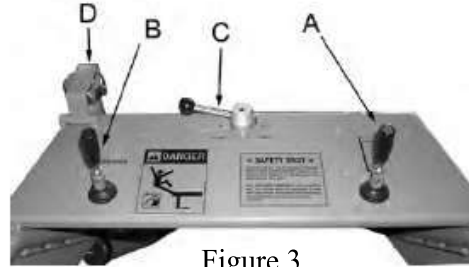

Figure 3
6. Starting the machine (See Figure 3)
- c. Before anything else you must turn the speed control lever (C) to the slowest position.